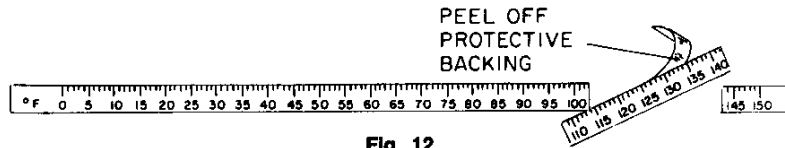

Fig. 12
2. Cut out the portion of the dial strip that corresponds to the new set point, allowing a 15F° (8C°) span on either end. Example: If the set point is 125F, the span should be 110 to 140F° (see Fig. 12).